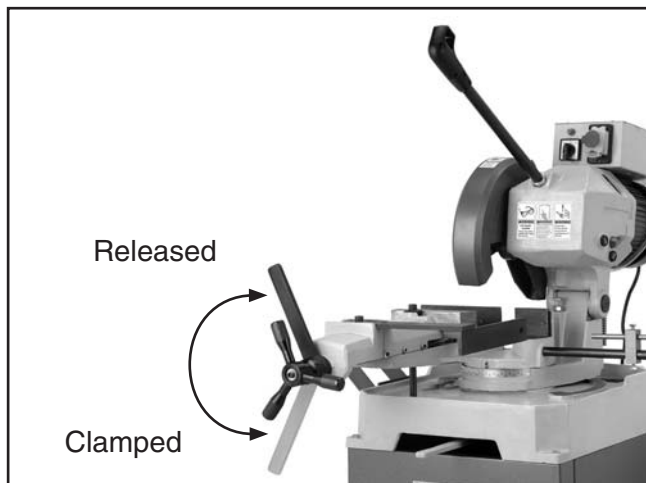

Figure 30. Quick release lever positions.
5. Rotate the quick release lever counterclockwise to clamp the workpiece. Between cuts, rotate the lever clockwise to release the workpiece, then counterclockwise again to reclamp it (**Figure 30**).